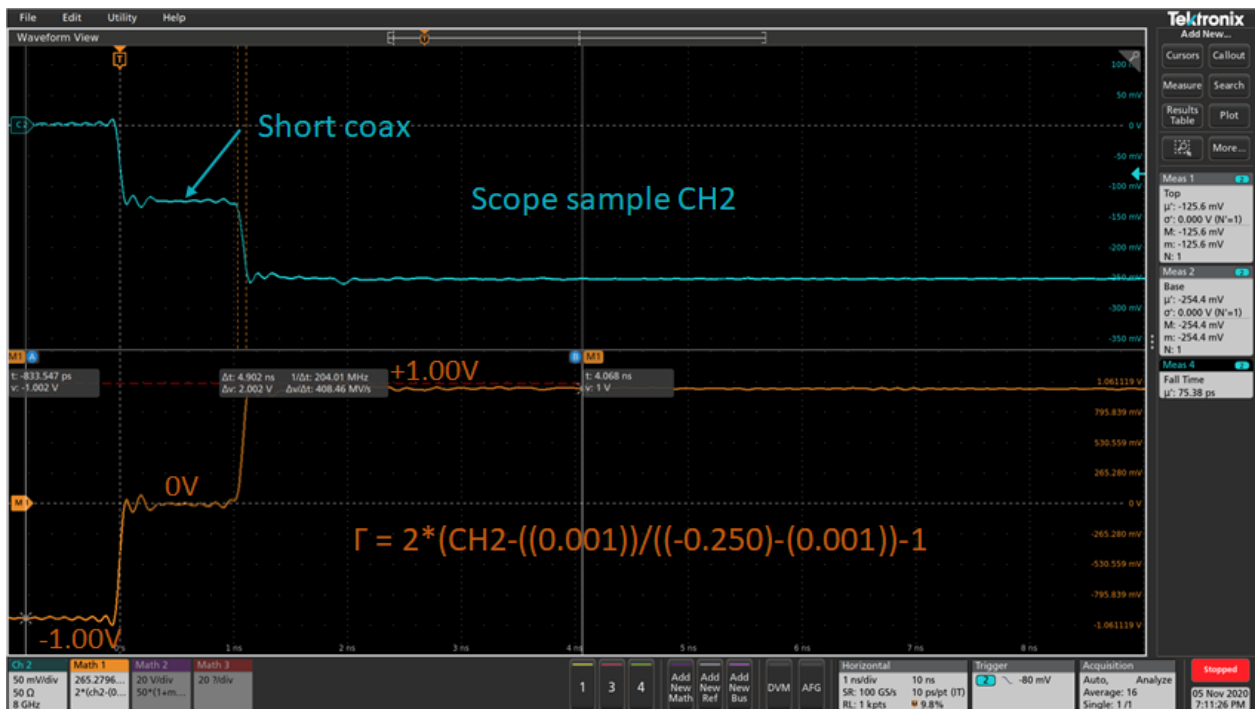

Fig. 7 - TDR Setup - Short, Open, Load.
In order to set up the TDR on the oscilloscope, we first need to scale the actual input pulse to a +/- 1V signal, which is also defined as the reflection coefficient ( $\Gamma$ ). Polarity of the actual input pulse is arbitrary. In other words,  $\Gamma$  needs to meet the specific criteria for open, 50 $\Omega$  match, short to ensure it is set appropriately before we use  $\Gamma$  to calculate our impedance. This is demonstrated by referencing EQ(17), and shown in Figure 7. Further, discussion on this topic is demonstrated in Picotest's Master the Fundamentals of Power Integrity and Power Supply Testing, Lesson 12: TDR Measurements [14]. With reference to EQ(17), ideally the 0.0mV would be zero and the 250mV would be 250.00mV. However, that is not always the case, which is how we can add some calibration on the received pulse from the J2154A by appropriately scaling  $\Gamma$  before calculating impedance. This calibration can be observed in the equation depicted on Figure 7.
As shown in Section 3, the reflection coefficient Gamma ( $\Gamma$ ) was calculated by EQ(17) and also shown in Figure 7.